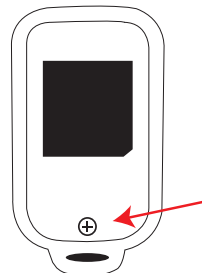

Figure 2
- Flip to the back of the transmitter and locate screw above key ring. (Figure 2)